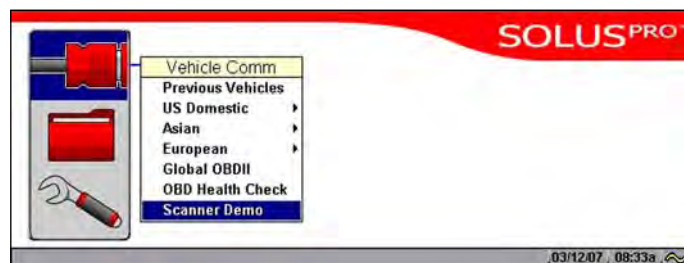

Figure 3-1 Scanner menu selection for Demonstration Mode
3. From the Scanner menu, highlight **Scanner Demo**, then press **Y/✓** (Figure 3-1).